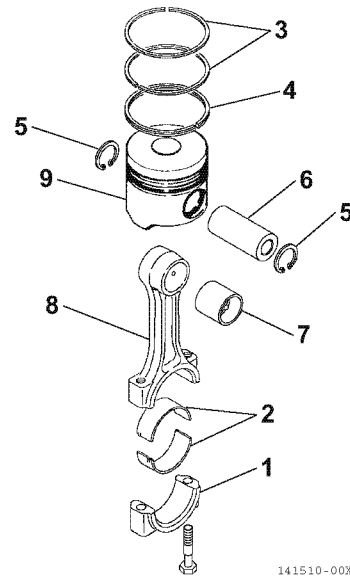

Figure 6-96
4. Lubricate and reinstall the wrist pin (6, **Figure 6-96**) through the piston and connecting rod.
5. Reinstall the second circlip (5, **Figure 6-96**) and ensure it is securely seated in the groove.